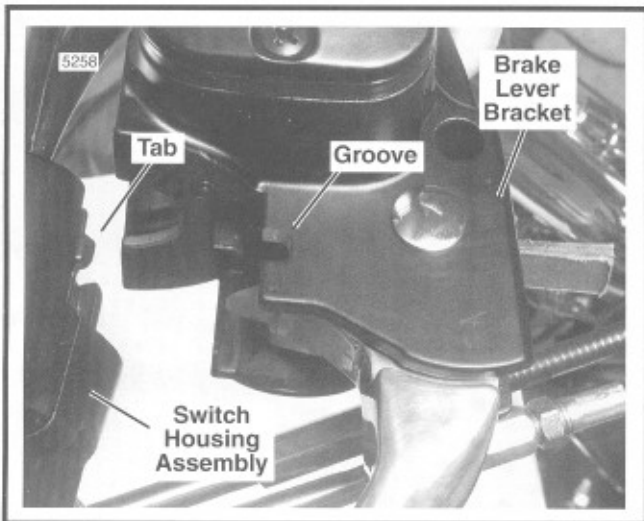

Figure 2-46. Fit Brake Lever/Master Cylinder to Right Handlebar Switch Housings
12. Position the brake lever/master cylinder assembly inboard of the switch housing assembly engaging the tab on the lower switch housing in the groove at the top of the brake lever bracket. See Figure 2-46.